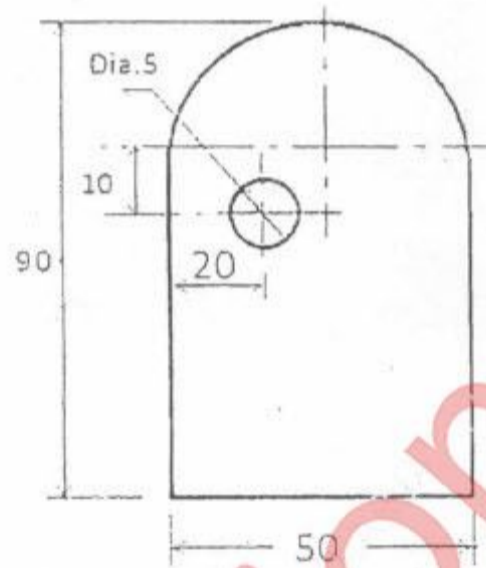

Figure 1
- (1) Question No. 1 is compulsory
- (2) Attempt **any three** questions out of the remaining five questions.
- (3) **Assume suitable data** wherever necessary.
- (4) Figures to the right indicate full marks.
- Q.1 (a) For the component shown in Fig. 1 which is manufactured in progressive die,